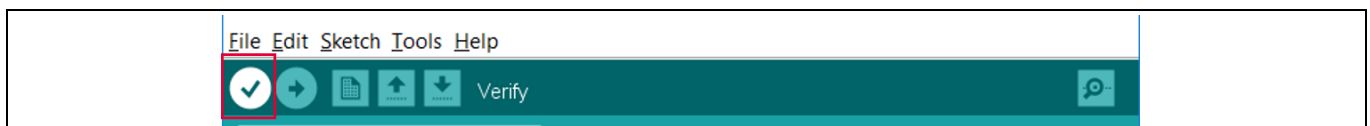
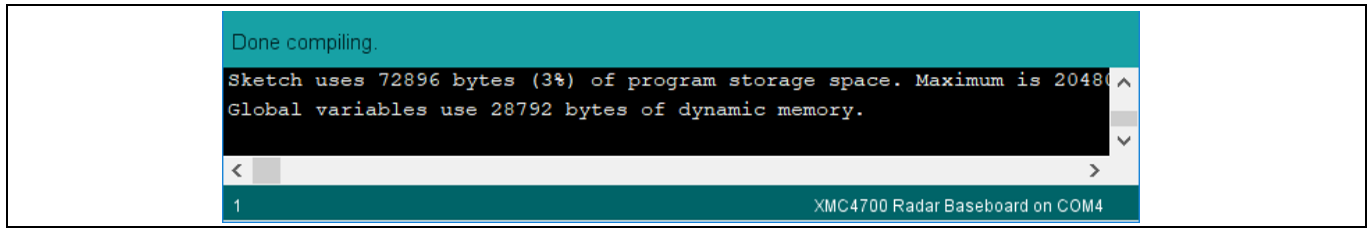

Figure 25 Compiling the sketch
Figure 26 **Compilation successful**
3. Compile the sketch by clicking the “Verify” button (Figure 25). A success message will be displayed on compilation completion (Figure 26).